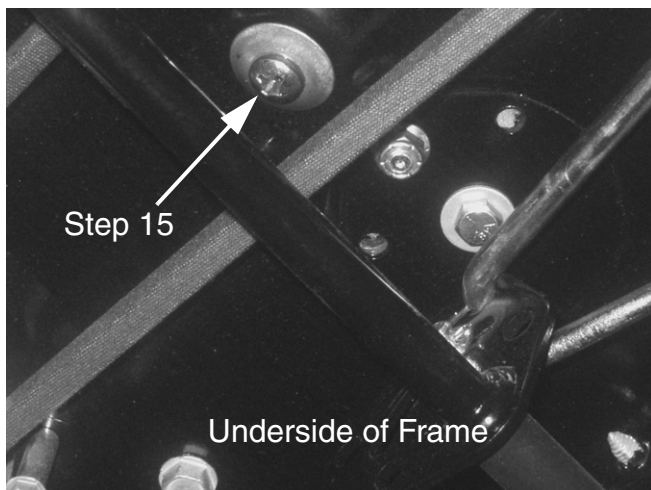

FIGURE 6
15. From the underside of the frame, using a large Phillips bit, remove the pan head phillips drive screw and cap from the end of the steering shaft. See Figure 6.
35. Have an assistant hold the steering wheel down into the hex flange bushing and from rotating. From the underside of the frame, using a large Phillips bit, install the new 5/16"-18 x .75 Pan Head Phillips Drive Screw, Item 3, and existing cap onto the end of the steering shaft. Refer Figure 6. **The screw must be torqued to 17-20 Ft.-Lbs.**